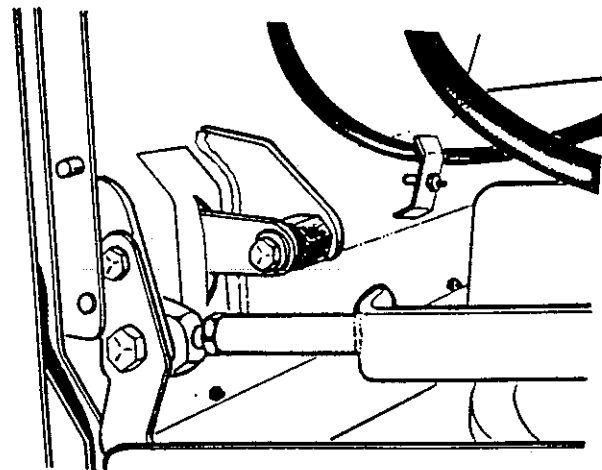

Figure 4-29. Main Broom Taper Adjustment
1. Locate the hex-shaped adjustment bar on the left rear wall of the broom chamber underneath the machine, see figure 4-29.